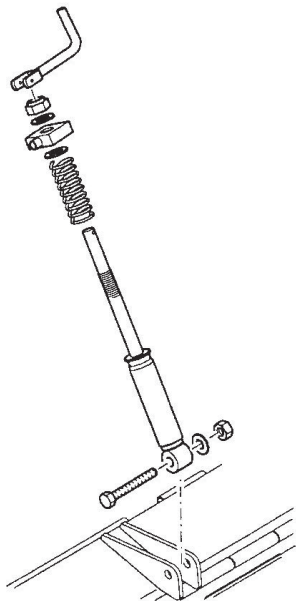

Fig 3.9
- turning the adjustment screw, Fig 3.9.